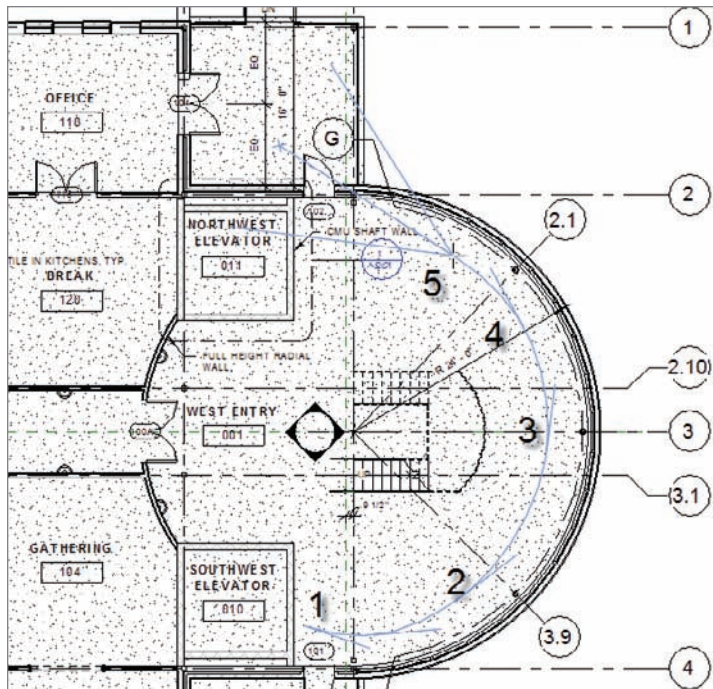

FIGURE 19.18 Picking the points in the sequence
4. Start picking points, as shown by the numbers in Figure 19.18.